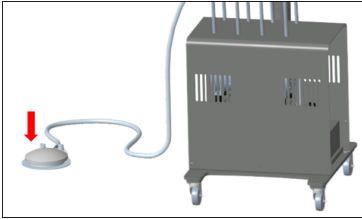

Figure 6
**Figure 6:** Carefully unpack the box (all accessories are contained in a small bag or box), please check packing list to ensure components are complete. Have another person assist you to remove the unit from the box to avoid injury. The round foot pedal should be placed on the flat bottom plate.